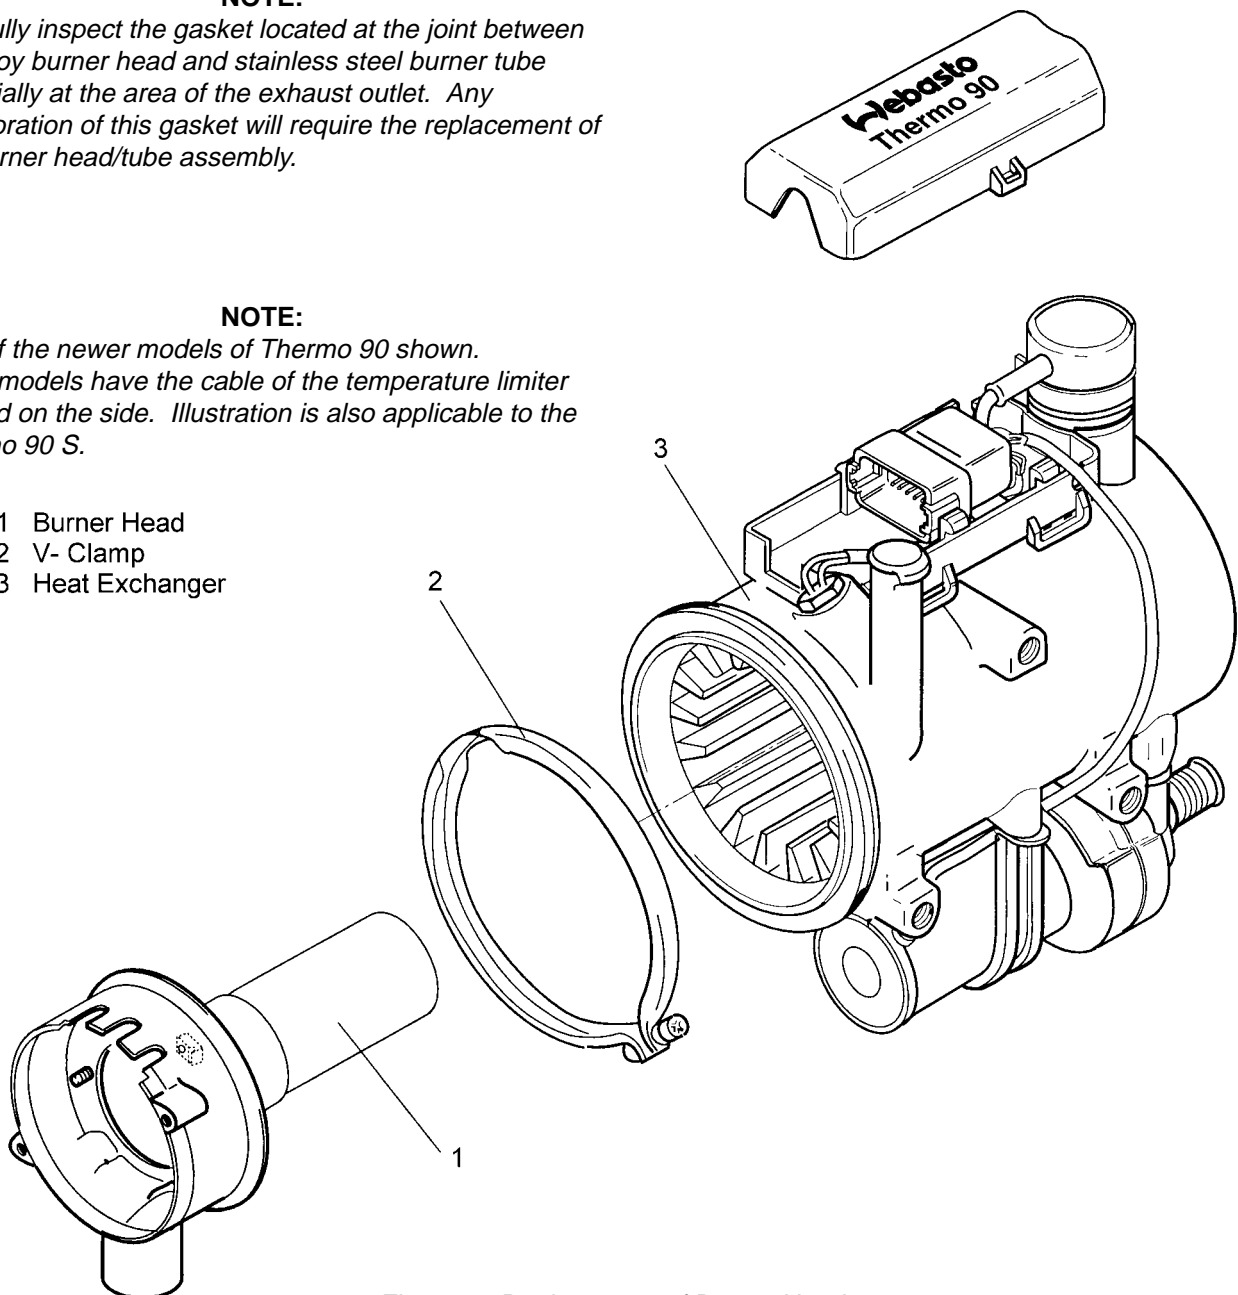

Fig. 9-6 Replacement of Burner Head
4. Remove attachment screw of V-clamp (2, Fig. 9-6) and pull off clamp.
5. Withdraw burner head (1) from heat exchanger (3) and remove.
1. Insert burner head (1, Fig. 9-6) into heat exchanger (3), align as necessary and secure with V-clamp (2).